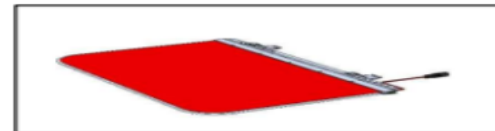

Figure 6
5. Once the graphic is securely installed, remove the Graphic Application Trim. The final product should look as shown in the image below (See Figure 6).